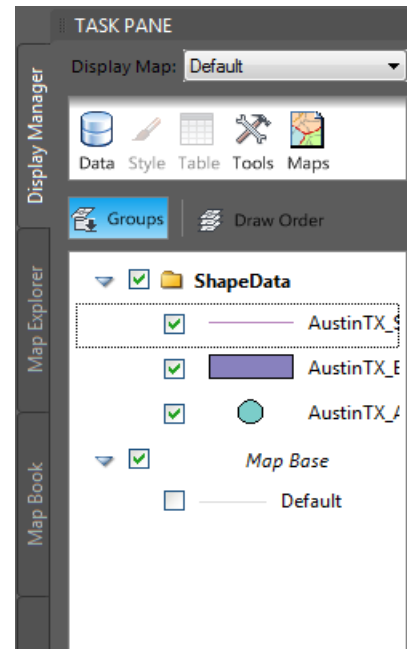

Figure 2-26 The **Display Manager** tab showing the added SHP file data
14. The **Display Manager** tab of the **TASK PANE** displays the name of the shape data added to the drawing, as shown in Figure 2-26.